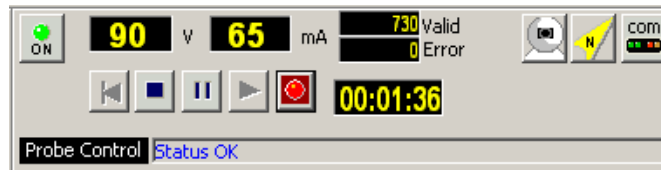

Fig. 1.5c Recording mode
**Recording a log** (fig.1.5c) when the sonde is powered up and the communication with the sonde correctly configured, the « New log » menu option under « File » becomes available (see section 3.1.2). This command enables a new log to be recorded, confirmation that recording is taking place is given by the flashing record button.